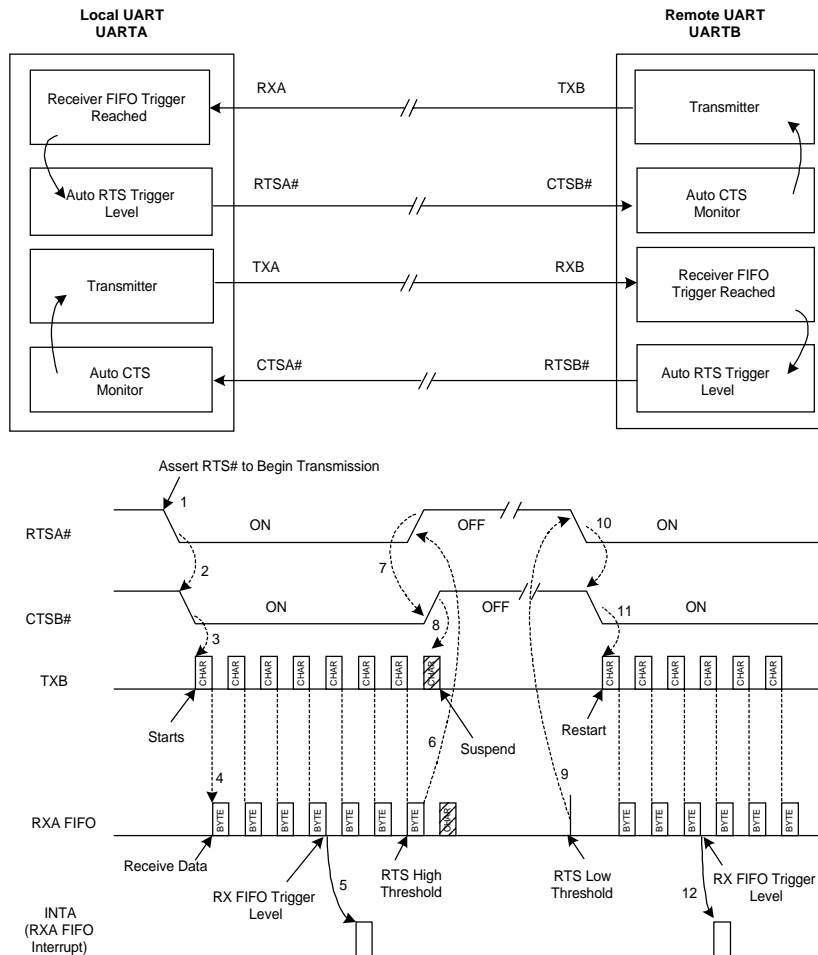

Figure 4.
The chip can be mapped into an embedded system memory space. Figure 4 shows an example of wiring S1-S5 for default port configuration with IRQA and IRQB for the two UARTs, and IRQC with DREQ, and DACK for the parallel port. Address lines A3-A10 are connected to the embedded system address lines A8-A15 instead, mapping it to address location 0x7F08-7F0F, 0x5F00-5F08, and 0x6F00-6F08 respectively. Application note #xxxx describes how to design with manual configuration mode in more detail.
Referring to Figure 4, the local UART (UARTA) starts data transfer by asserting RTSA# (1). RTSA# is normally connected to CTSB# (2) of remote UART (UARTB). CTSB# allows its transmitter to send data (3). TXB data arrives and fills UART-A receive FIFO (4). When RXA data fills up to its receive FIFO trigger level, UARTA activates its RXA data ready interrupt (5) and continues to receive and put data into its FIFO. If interrupt service latency is long and data is not being unloaded, UARTA monitors its receive data fill level to match the upper threshold of RTS delay and de-assert RTSA# (6). CTSB# follows (7) and request UARTB transmitter to suspend data transfer. UART-B stops or finishes sending the data bits in its transmit shift register (8). When receive FIFO data in UARTA is unloaded to match the lower threshold of RTS delay (9), UARTA re-assert RTSA# (10) CTSB# recognizes the change (11) and restarts its transmitter and data flow again until next RX trigger (12). This same event applies to the reverse direction when UARTA sends data to UARTB with RTSB# and CTSA# controlling the data flow.